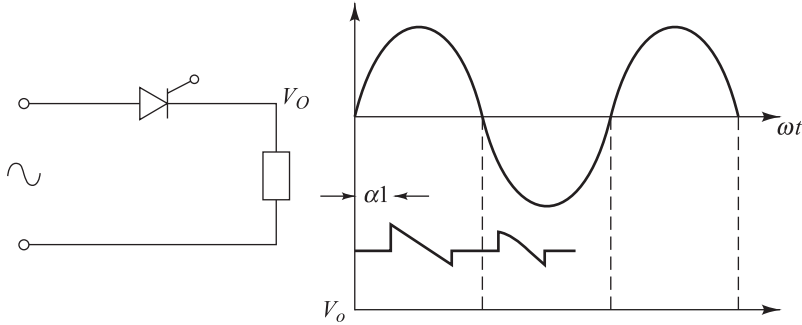

Fig. MCQ. 6.43
- 6.43** Referring to the Fig. MCQ. 6.43, the type of the load is (a) inductive load (b) resistive load (c) dc motor (d) capacitive load. (G 94)